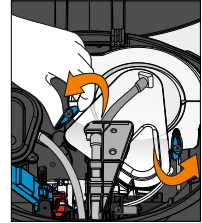

Figure 35
7. Unlock the turn knobs which hold down the SmartFlo SF-1 Water Cartridge (Figure 35)